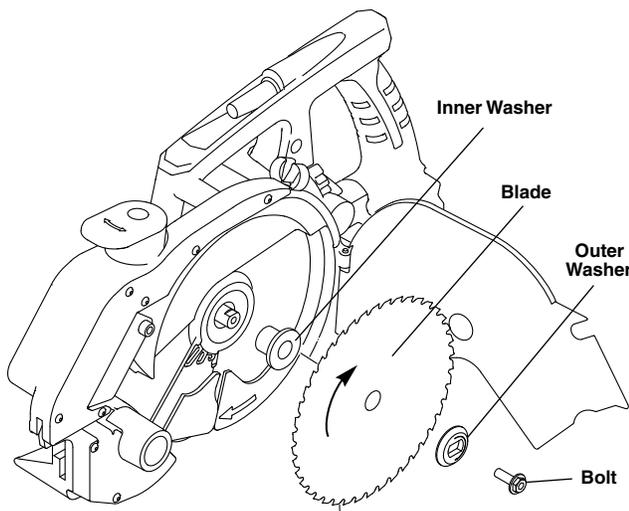

Figure 20 – Installing Saw Blade
5. Remove the saw blade and replace with new blade, ensuring saw blade teeth are oriented correctly. Mount the blade against the inner washer (see Figure 20).
6. Install the outer washer and blade bolt and ensure there is no debris between the blade and inner/outer washer. Ensure proper assembly of blade and washers. See Figure 20.